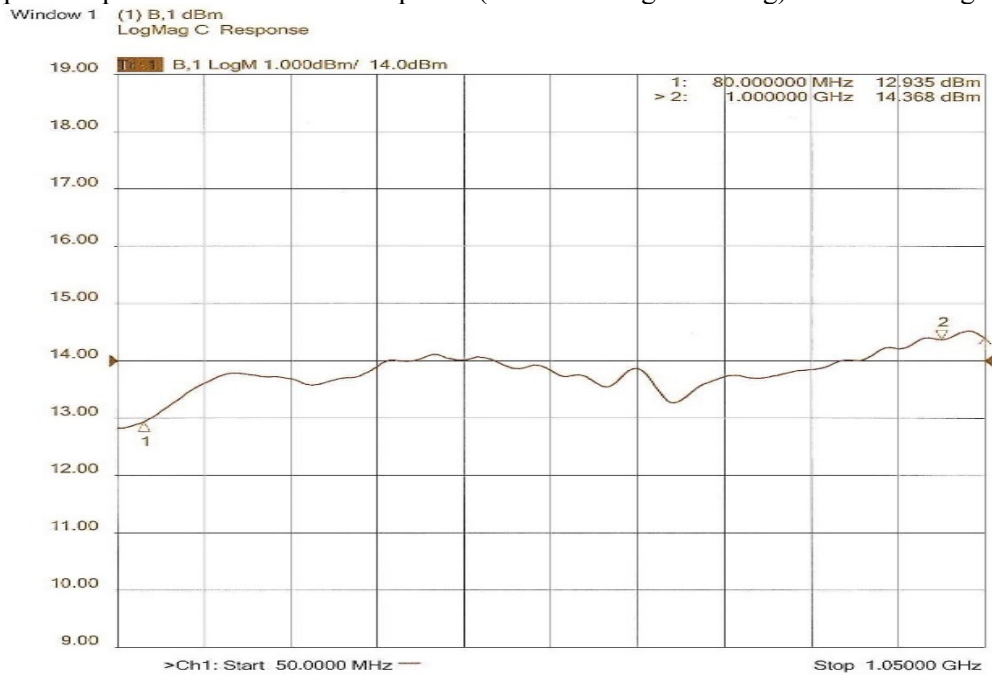

Figure 4-8. Typical A2 Driver Module Response
5. The typical response for the A1 Pre-Amplifier (at maximum gain setting) is shown in Figure 4-8.